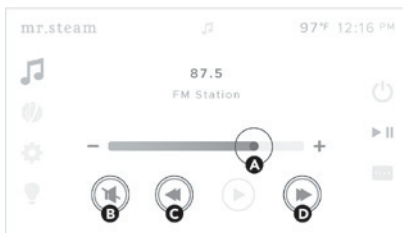

Figure 17
5. To control FM radio (**Figure 17**):